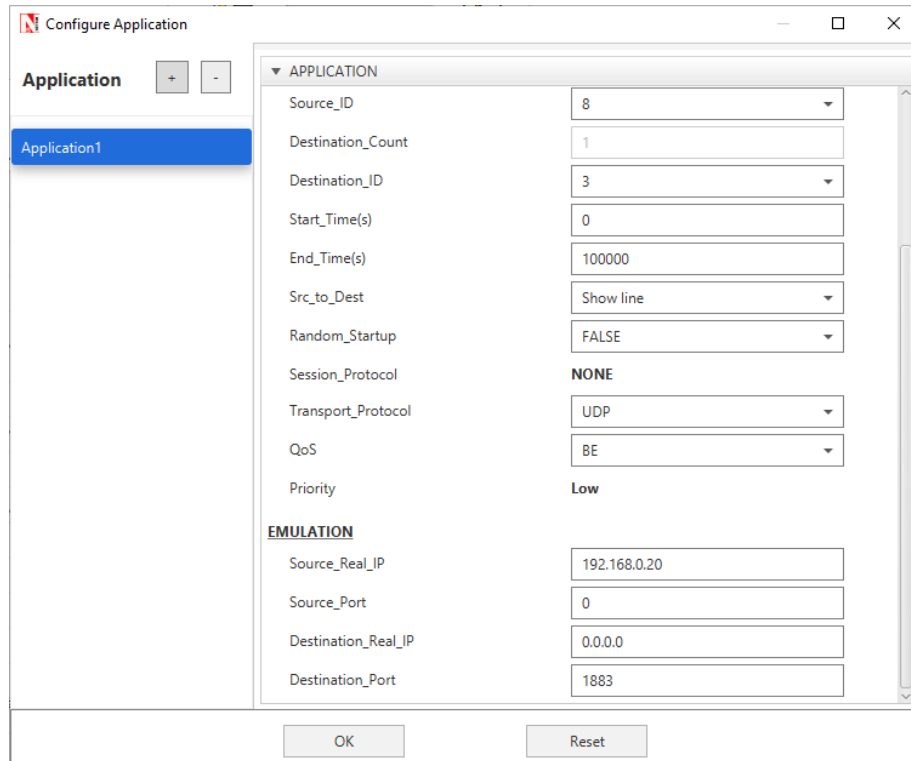

Figure 1.8: NetSim Application Panel
- Create Emulation application between Sensor and Cloud (Also users can specify port if known) as shown in Figure 1.8